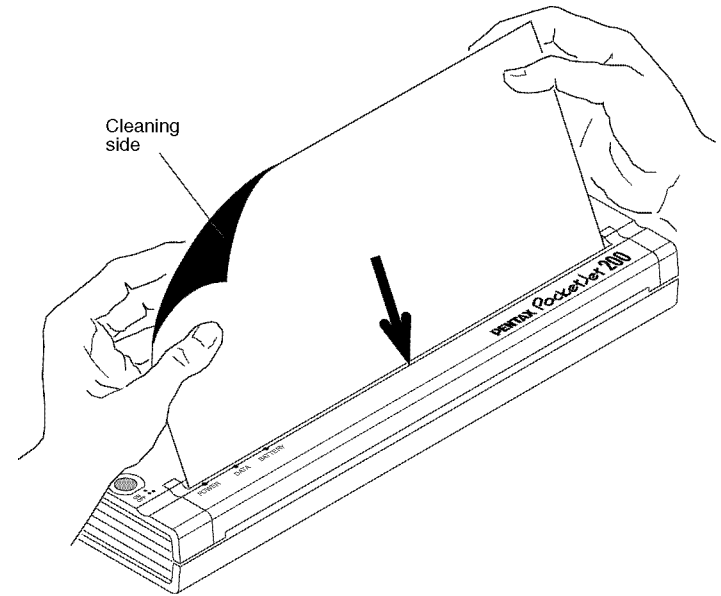

FIGURE 18. Inserting the cleaning cloth
4. Insert the black cleaning cloth that came with the printer into the printer's paper input slot with the rough black side, which contains the cleaning material, towards the rear of the printer. The printer pulls the cleaning cloth through. See Figure 18.